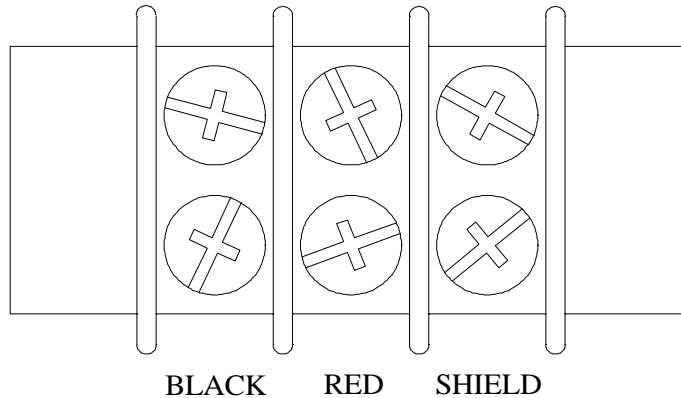

Figure 11 T1 WIRING DIAGRAM
3. Connect the control cable to terminal strip T1 (located to the left of the test jack S13) according to the diagram in figure 11.